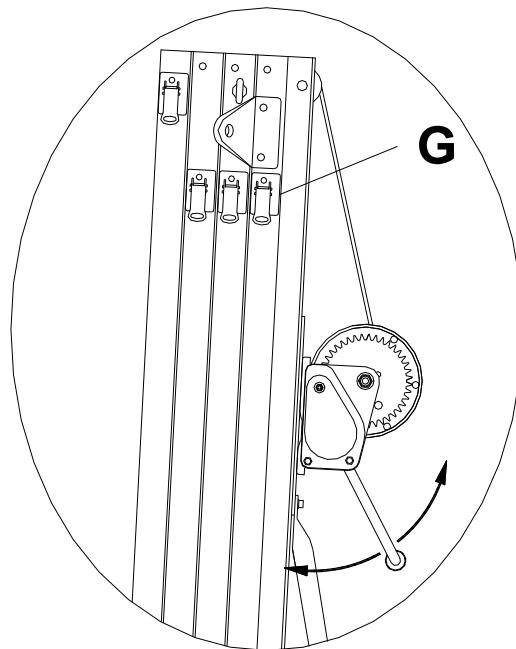

Fig. 7
To bring the lift down you need to first turn the winch handle slightly clockwise and at the same time pull out the red ALS lock in (G). (Fig. 7)